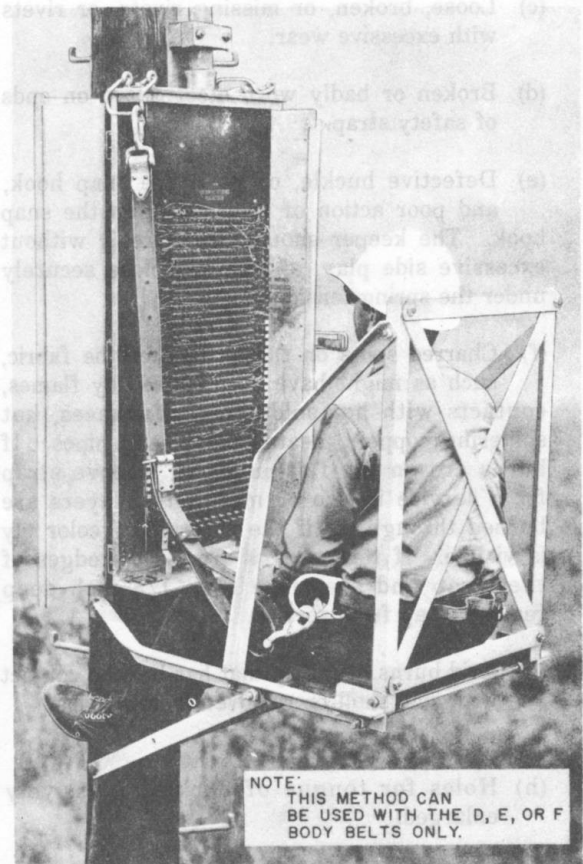

Fig. 11—Method of Using D, E, or F Body Belt With Safety Strap on B-Type Cross-Connecting Terminal
4.06 The D, E, or F Body Belt should be used at B-type cross-connecting terminals as shown in Fig. 11.